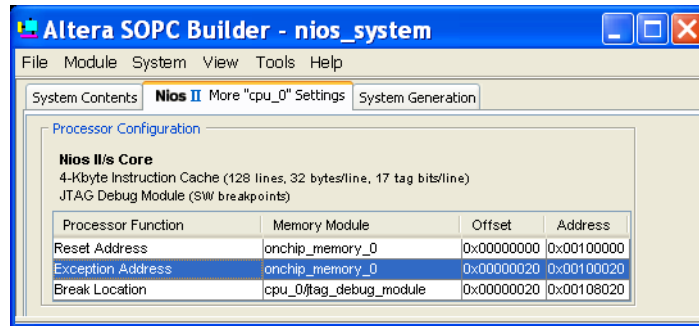

Figure 6. Setting the Exception and Reset addresses.
2. Generate the same system as in Part III. Note that if the SOPC Builder generated the addresses automatically, the on-chip memory will have addresses starting from 0x0100000 as indicated in Figure 3. Then, it is necessary to ensure that the Exception Handler (needed to use the interrupt mechanism) address is in the on-chip memory address range. This must be done when the system is generated by the SOPC Builder. Upon assigning the addresses (given in Figure 3), click on the tab Nios II More "cpu_0" Settings and set the Exception and Reset addresses to the correct range as shown in Figure 6.